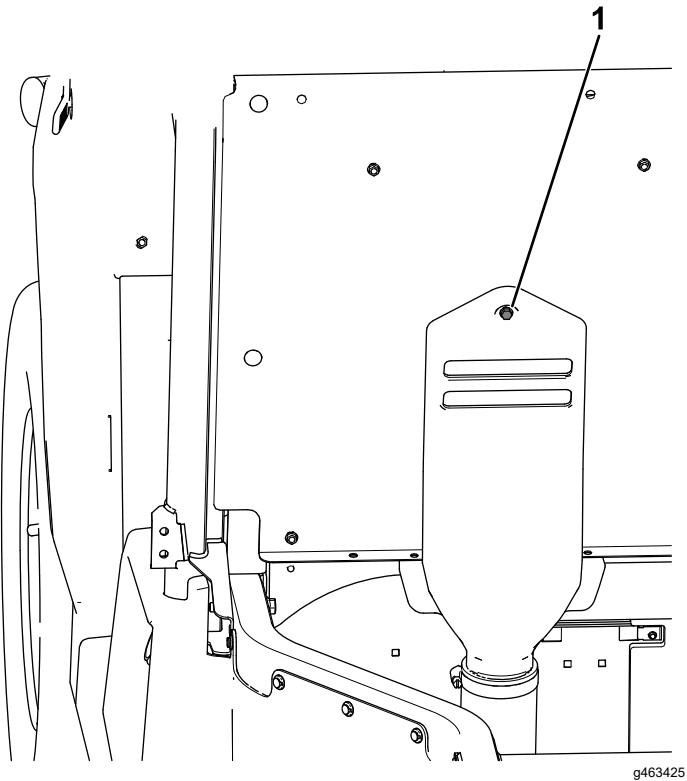

Figure 66
F. Insert the captive bolt attached to the CVT-intake hood into the hole shown on the seat panel (Figure 66).